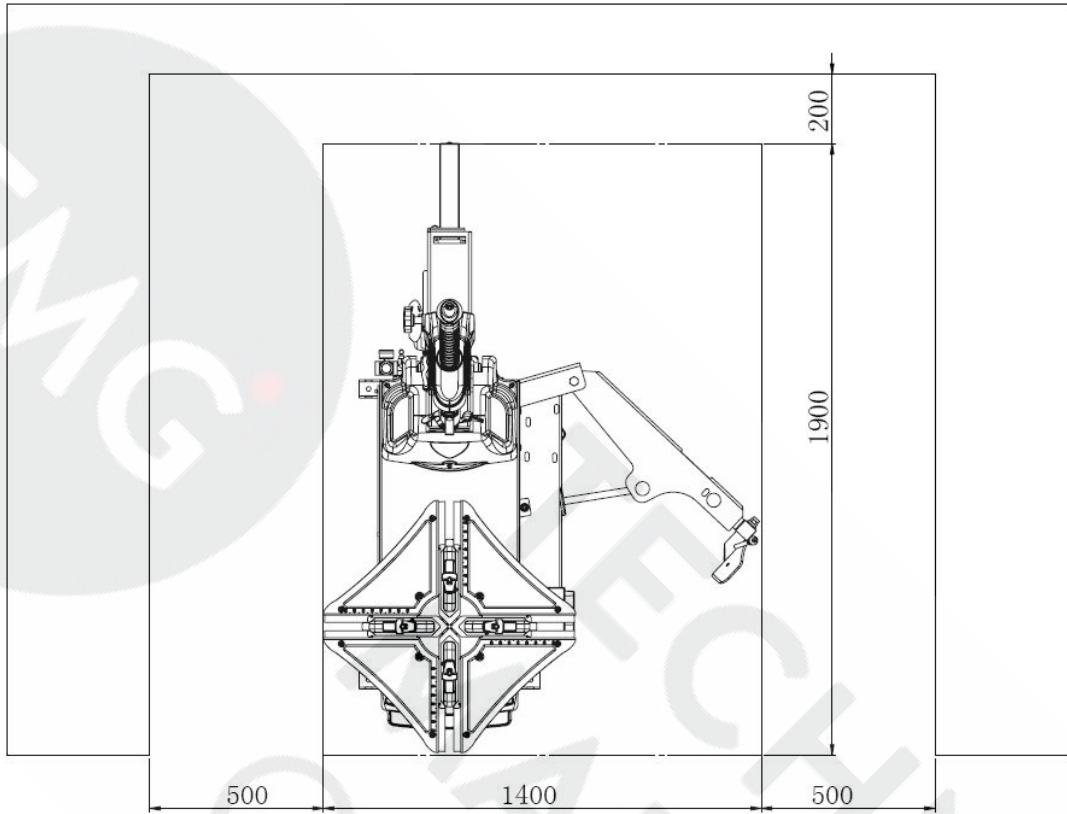

FIG2
- The space around machine is not less than indicated in Fig2.